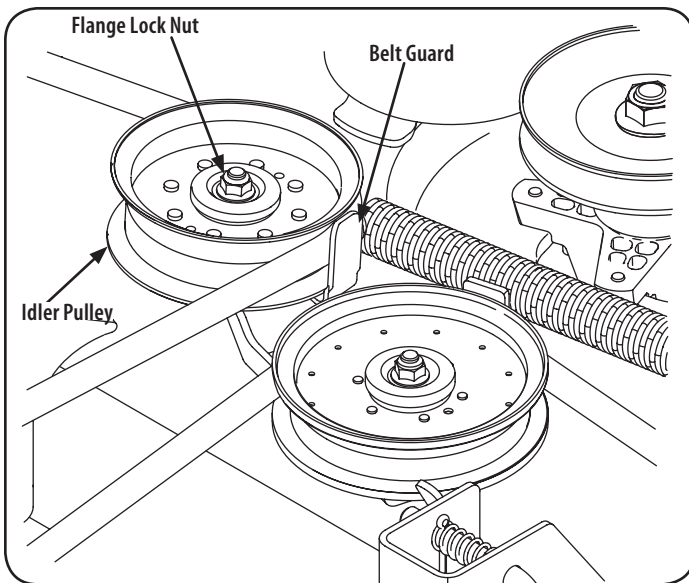

Figure 37
3. Loosen, but do not remove, the movable idler pulley and belt guard by only loosening the flange lock nut securing the idler pulley to the idler arm. See Figure 37.
6. Place the belt around the idler pulleys removed in step 3. Once in place, retighten the flange lock nut on the idler pulley to secure the assembly. See Figure 37.